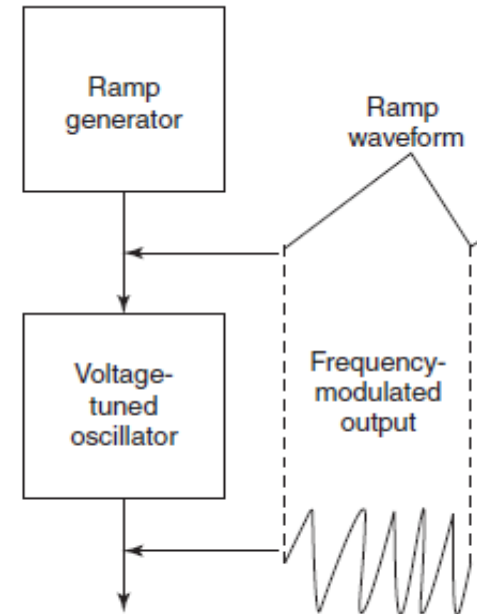

Figure 14-15 Block diagram of a sweep frequency generator
- A sweep frequency generator is a signal generator which can automatically vary its frequency smoothly and continuously over an entire frequency range. Figure 14-15 shows the basic block diagram of a sweep frequency generator.